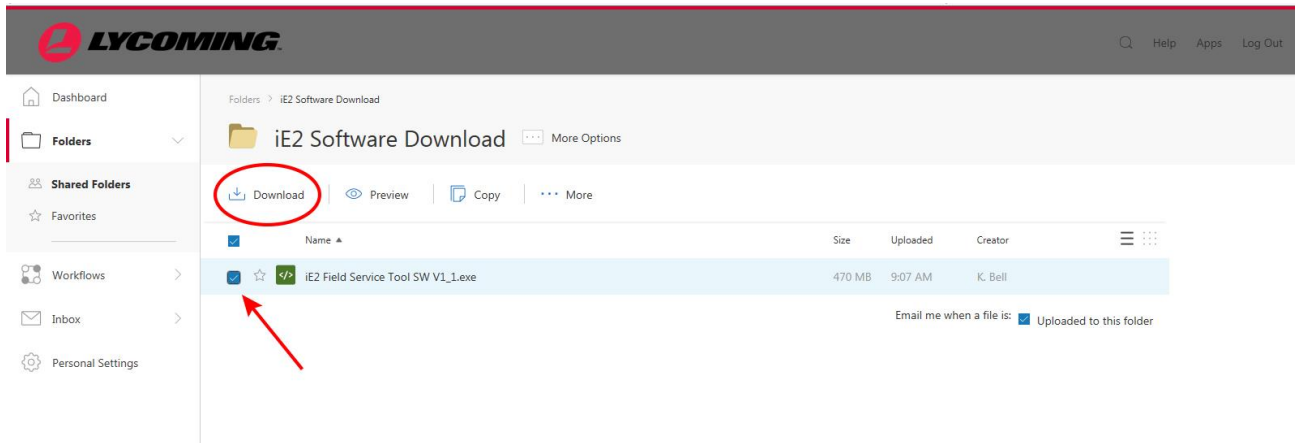

Figure 9
9. Check the box to the left of the “iE2 Field Service Tool SW” icon then click on the **Download** button (Figure 9).